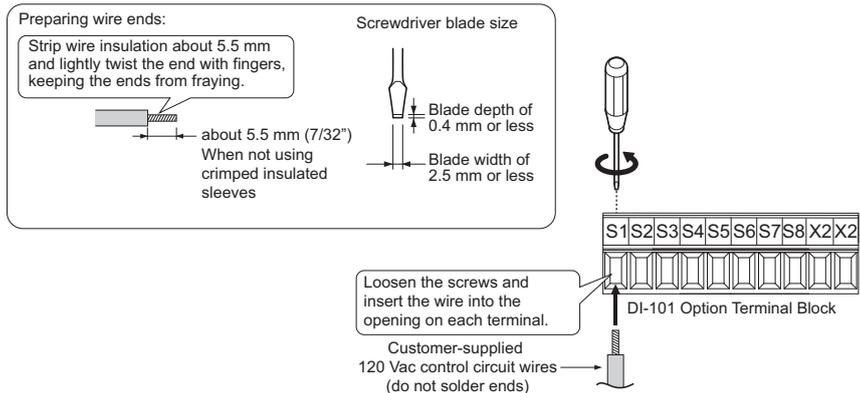

Figure 7 Preparing Cable Wiring
5. Ensure the factory installed wire jumper is present between TB1 terminals SC to SP. If no wire jumper is present, prepare and install a jumper according to Figure 7. Route the customer-supplied option wiring through one of the cable glands on the A1000 drive bottom conduit bracket.
6. Prepare the external 120 Vac control circuit wires (customer supplied) for terminals S1 to S8 and X2 on the DI-101 option as shown in **Figure 7**.